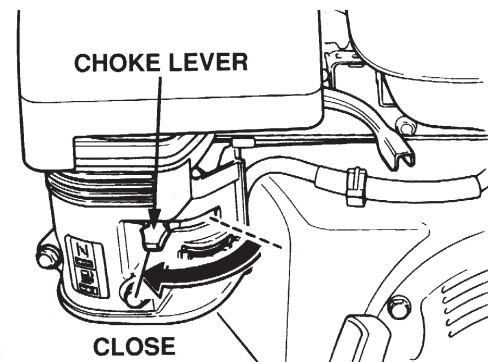

Figure 27. Choke Lever (Closed Position)
8. If operating the Cutter 3 CE in **cold weather conditions**, place the **Choke Lever** (Figure 27) in the **CLOSED** position.